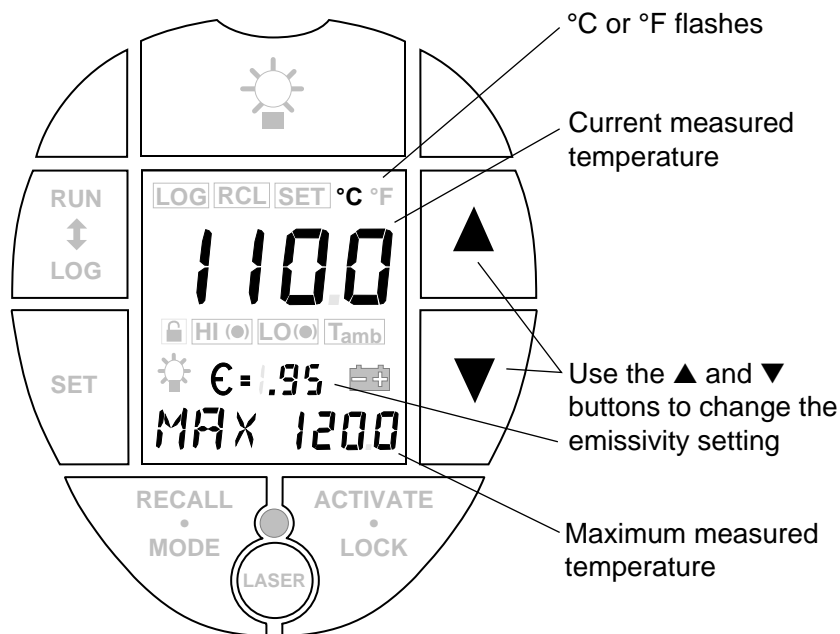

Figure 2-1: Quick Start Display
1. Point the instrument at the object you want to measure (perpendicular to the object) and pull the trigger. The current temperature (in °C or °F), the emissivity value, and the maximum measured temperature will be displayed (similar to Figure 2-1).